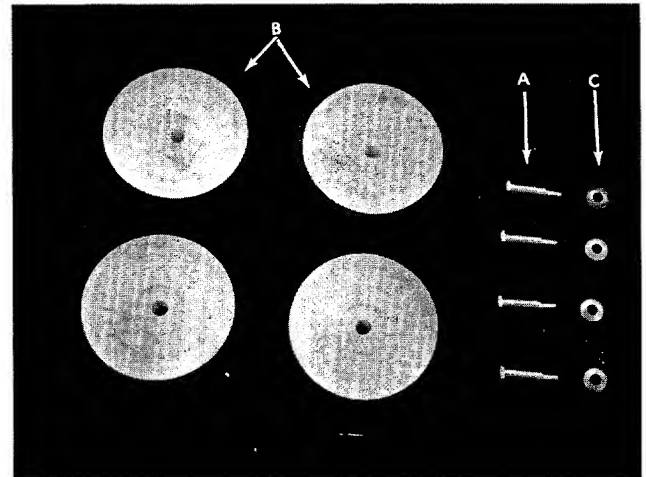

FIGURE 1
7. Place shoulder bolt (1) through wheel (B). See Figure 1.